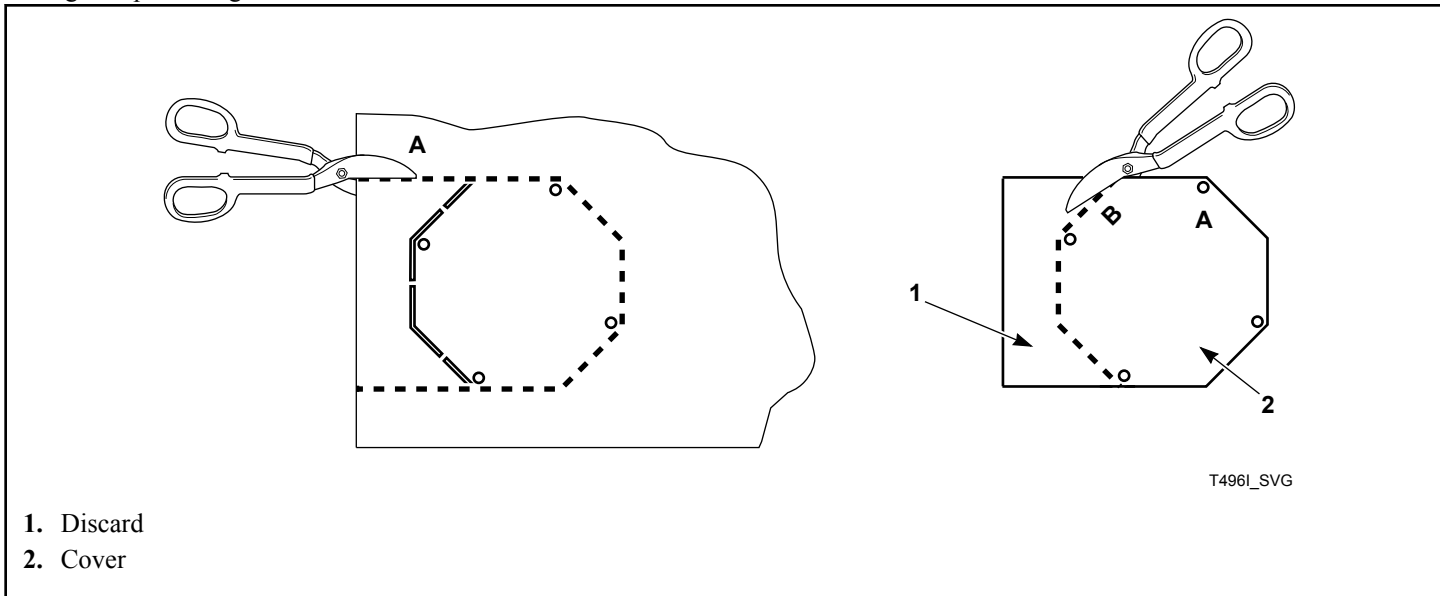

Figure 11
3. Cut out shape from belt guard cover. Refer to *Figure 11*.